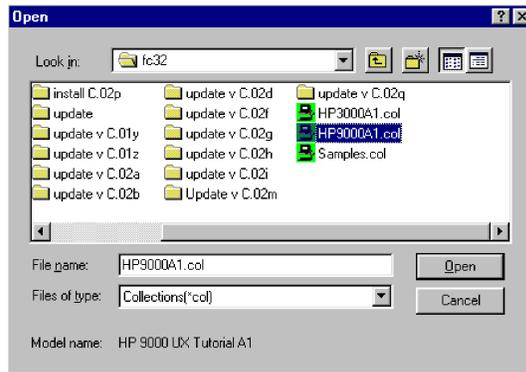

Figure 6.1 *Open dialog box*
- 1 On the **File** menu, click **Load/Validate model**. The **Open** dialog box displays (see Figure 6.1).